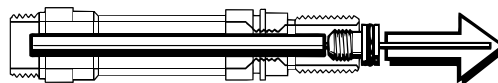

Fig. 5 - Crown Removal
24. When the crown has been unthreaded from the valve body, carefully insert the pin of the Seat Extraction Tool (P/N 1094-36) through the opposite end of the valve body and through the opening in the center of the crown. Gently press the crown out (see Fig. 5). Remove and discard the O-ring(11).